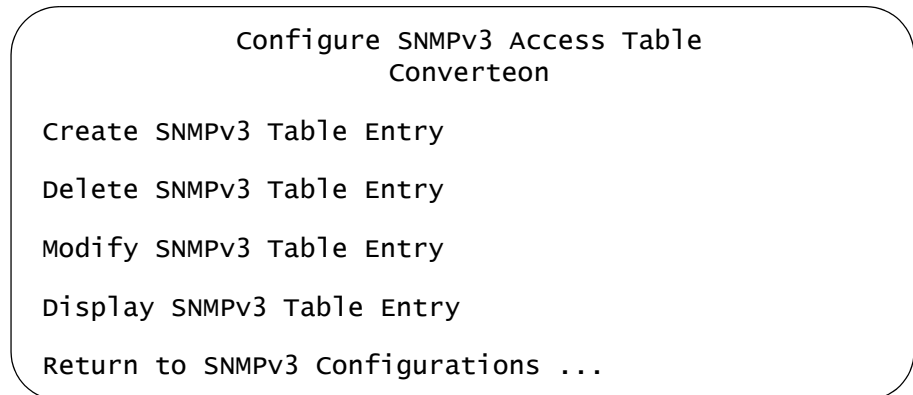

Figure 115. Configure SNMPv3 Access Table Menu
- From the Main Menu, select **Configuration -> System Configuration -> SNMPv3 Configurations -> Configure SNMPv3 Access Table**. The Configure SNMPv3 Access Table menu is shown in Figure 115.